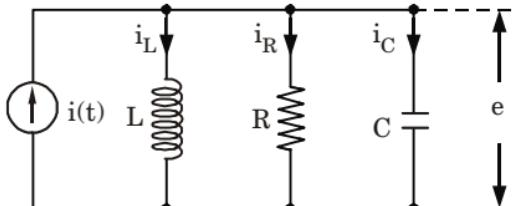

Fig. 1.4.1. Electrical circuit for force-current analogy.
1. The nodal equation as obtained for the circuit shown in Fig. 1.4.1 is analogous to spring-mass-damper system described by the eq. (1.4.1).